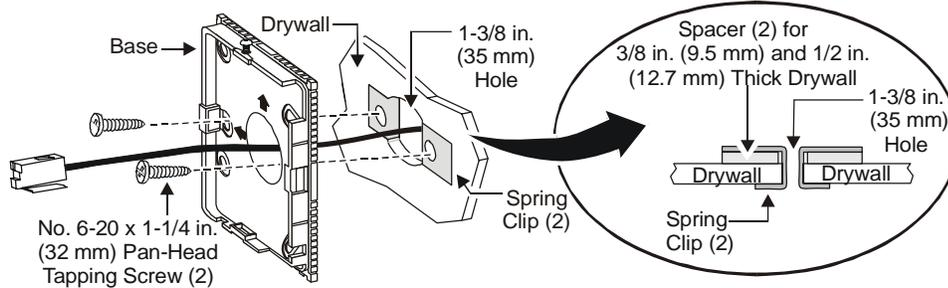

Figure 5: Surface Mounting to Drywall
To mount the surface model to drywall, refer to Figure 5 and proceed as follows:
4. Insert the spring clips on each side of the drilled 1-3/8 in. (35 mm) hole, with the long leg of the spring clip inside the wall. Use the spacers if needed, as shown in Figure 5. Do not use the spacers for 5/8 in. (16 mm) drywall.